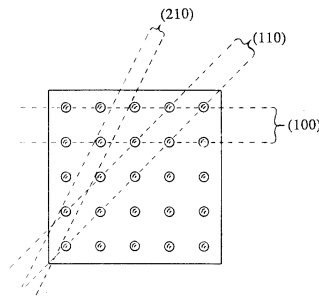

Figure 17: "Atomic" Planes of the Bragg Crystal
2. Notice the three families of planes indicated in figure 17. (The designations (100), (110), and (210) are the Miller indices for these sets of planes.) Adjust the Transmitter and Receiver so that they directly face each other. Align the crystal so that the (100) planes are parallel to the incident microwave beam. Adjust the Receiver controls to provide a readable signal. Record the meter reading.